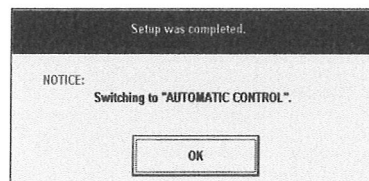

Fig.27
- ③ Fill in the fields with the appropriate parameters.
- ④ After filling in all the fields required at ③, click on "SETUP" button. A message box as shown in Fig. 27 then appears.